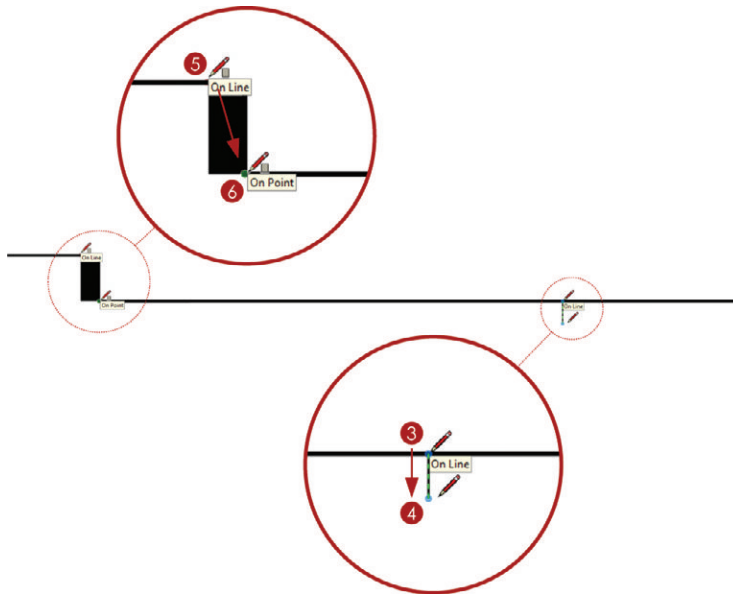

Figure 13.25 Add the detail.
3. Change the stroke width to .5. Click on the existing line to start another line (Figure 13.25).